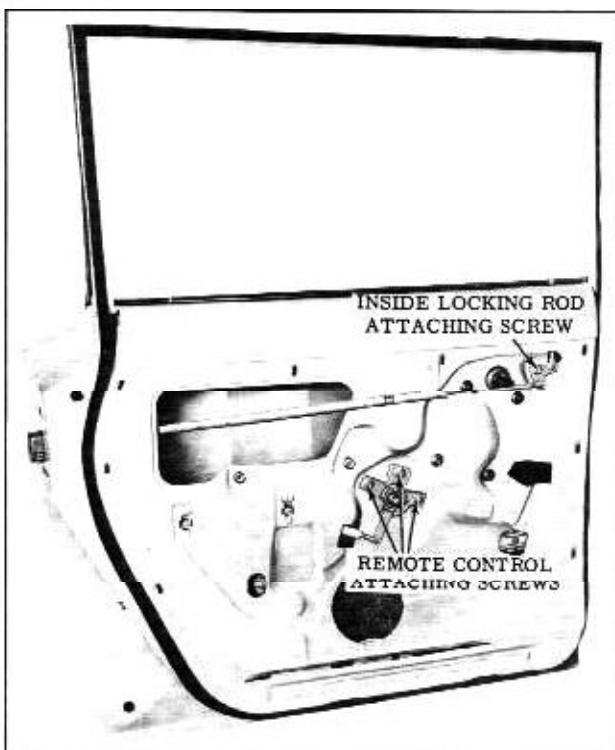

Fig. 15-39 Rear Door Remote Control and Inside Locking Rod Attachment
1. Remove door trim assembly and detach inner panel water deflector sufficiently to gain access to remote control attaching screws. (Fig. 15-39)
3. Remove inside locking rod assembly attaching screw and washer and detach connecting rod from clip on inner panel. (Fig. 15-39)